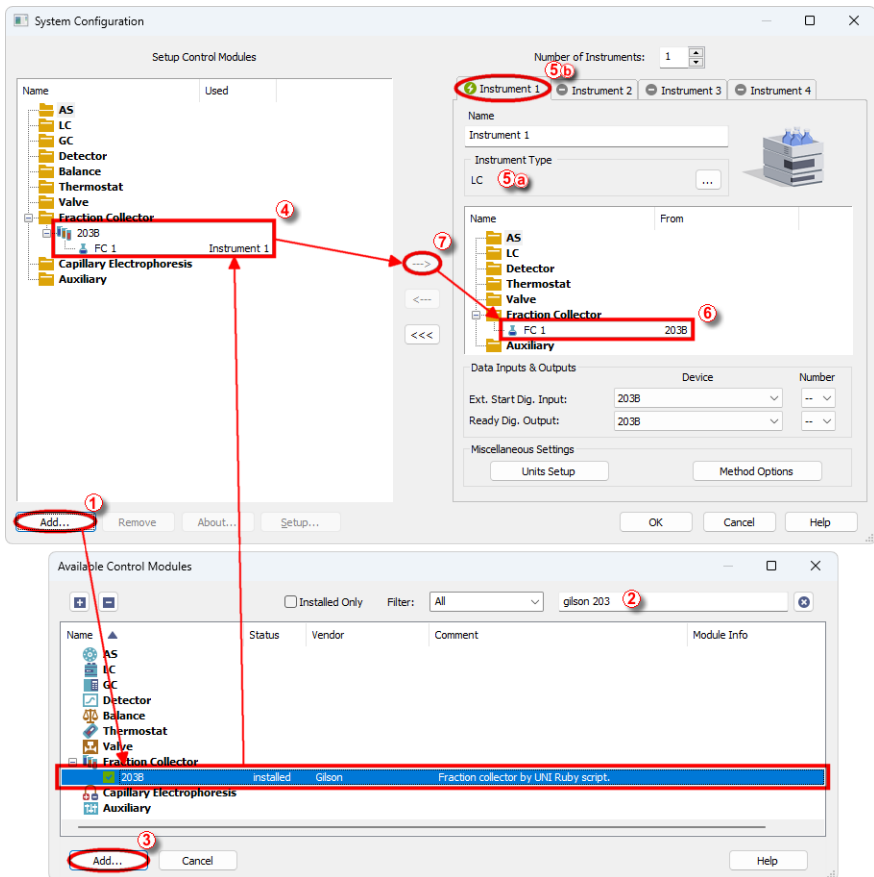

Fig. 2: How to Add UNI Ruby module
- Press the *Add* button (① on **Fig. 2** on pg. 3.) to invoke the *Available Control Modules* dialog.
- You can specify the search filter (②) to simplify the finding of the driver.
- Select the correct item and press the *Add* (③ on **Fig. 2** on pg. 3.) button. Each device with already created UNI profile should have its own item named accordingly in the *Available Control Modules* dialog.